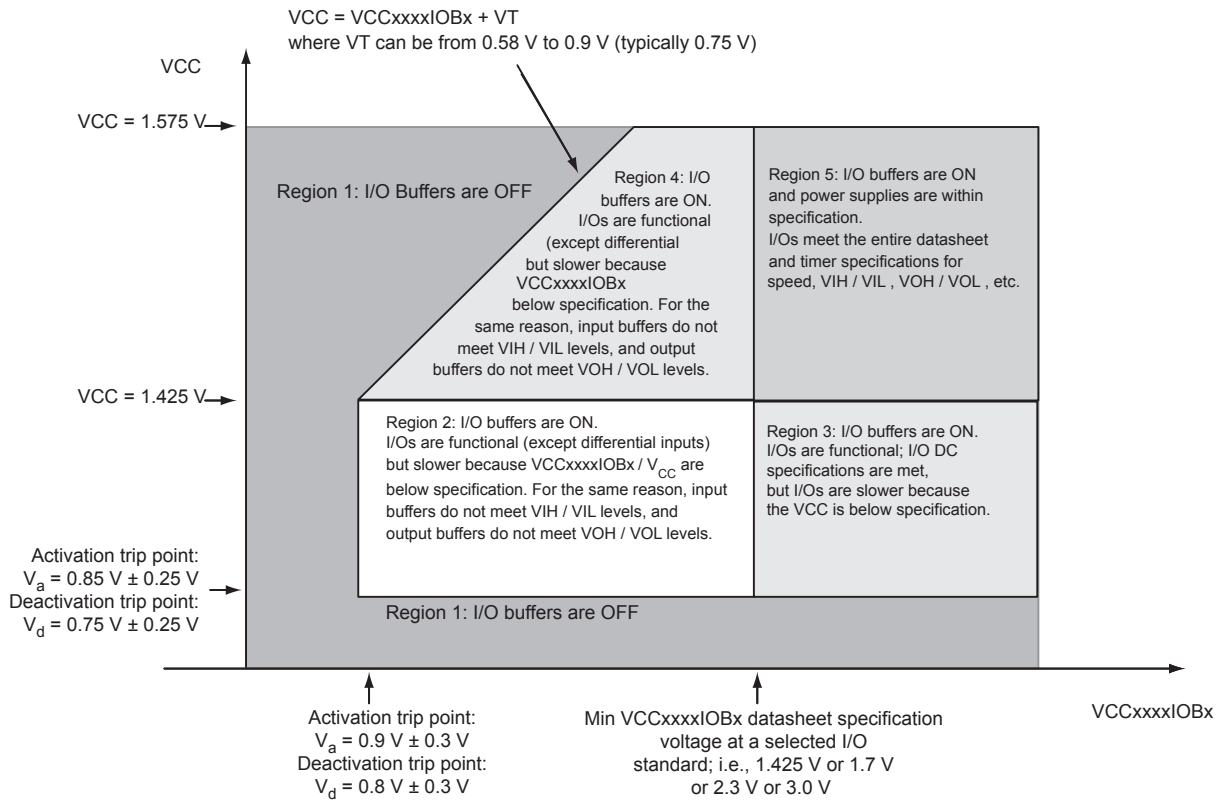

Figure 2-1 • I/O State as a Function of $VCC_{xxxxIOBx}$ and VCC Voltage Levels
Sophisticated power-up management circuitry is designed into every SmartFusion[®] device. These circuits ensure easy transition from the powered-off state to the powered-up state of the device. The many different supplies can power up in any sequence with minimized current spikes or surges. In addition, the I/O will be in a known state through the power-up sequence. The basic principle is shown in Figure 2-1 on page 2-6.
1. VCC and VCCxxxxIOBx are above the minimum specified trip points (Figure 2-1 on page 2-6).
Actel recommends using monotonic power supplies or voltage regulators to ensure proper power-up behavior. Power ramp-up should be monotonic at least until VCC and VCCPLLx exceed brownout activation levels. The VCC activation level is specified as 1.1 V worst-case (see Figure 2-1 on page 2-6 for more details).